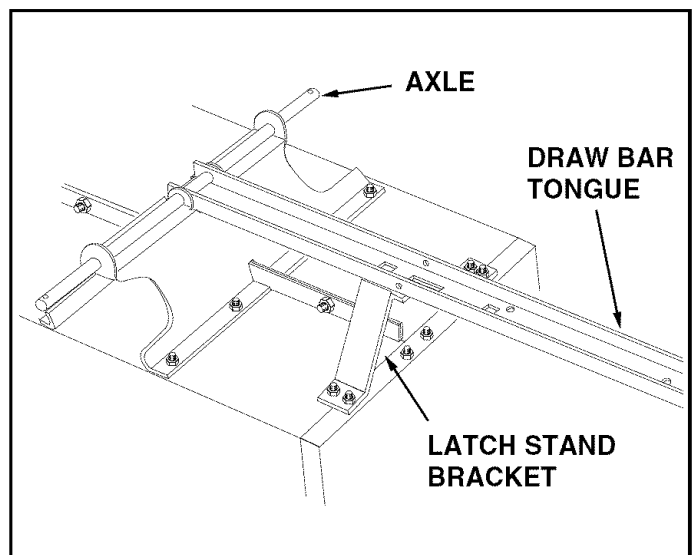

FIGURE 7
15. Lower the cart to rest upside down on its top flange with the wheel support facing up. See figure 7.
16. Lay the drawbar tongue (open side facing up) onto the Wheel Support and the Latch Stand Bracket. Slide the axle through the wheel support and the tongue. See figure 7.